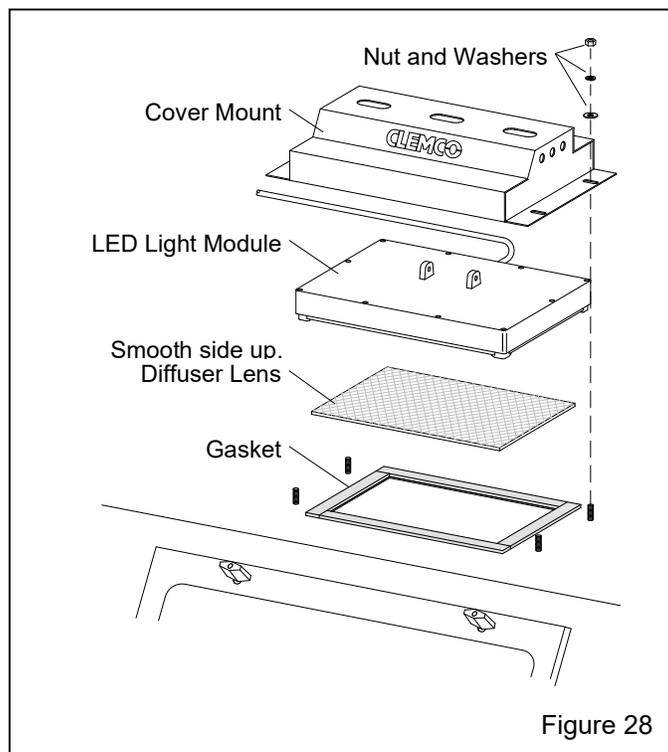

Figure 28
7.7.2 Remove the four nuts and washers attaching the hold-down cover to the cabinet and remove the cover, as shown in Figure 28
7.7.3.2 Lay a section of strip gasket along the edge of the opening, and cut to length allowing 3/4" overlap on each end. Peel a short section of adhesive backing and adhere the strip gasket to the top edge of the light opening, as shown in Figure 28. Press the gasket to bond. Repeat the process for each side, compressing the ends to seal.